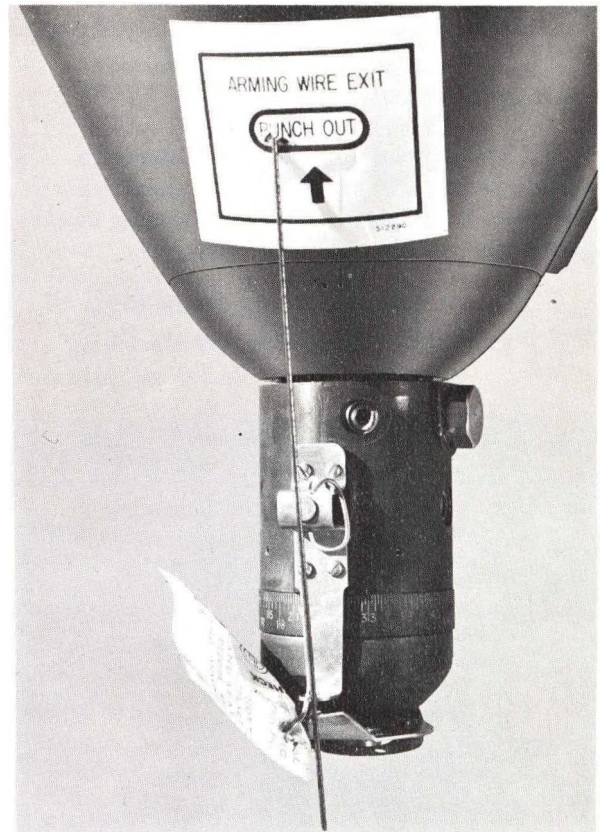

Figure 4-7. Arming Wire Aligned.
10. Align arming wire bracket on side of fuze with arming wire exit hole within 45 degrees on either side, figure 4-7.